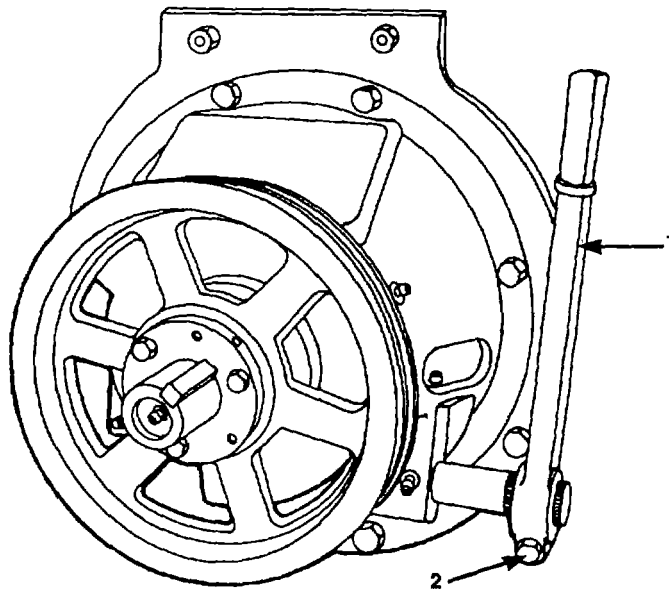

Figure 3-44. Service Points
Loosen the 9/16-inch nut (1, figure 3-44) and remove handle (2) from shank.